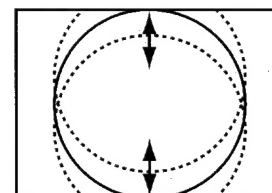

Fig.3
- Adjust the vertical size to obtain overscan (fig. 3).